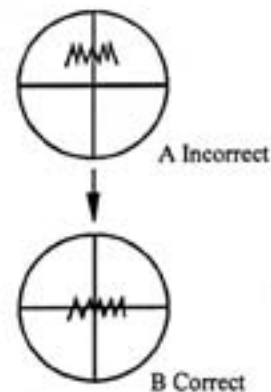

Fig 6 The place of the filament adjustment
4.4.6 Take off the eyepieces and observe through the eyepiece tube directly. Adjust if the filament image diverges the optical axis (Fig.6).